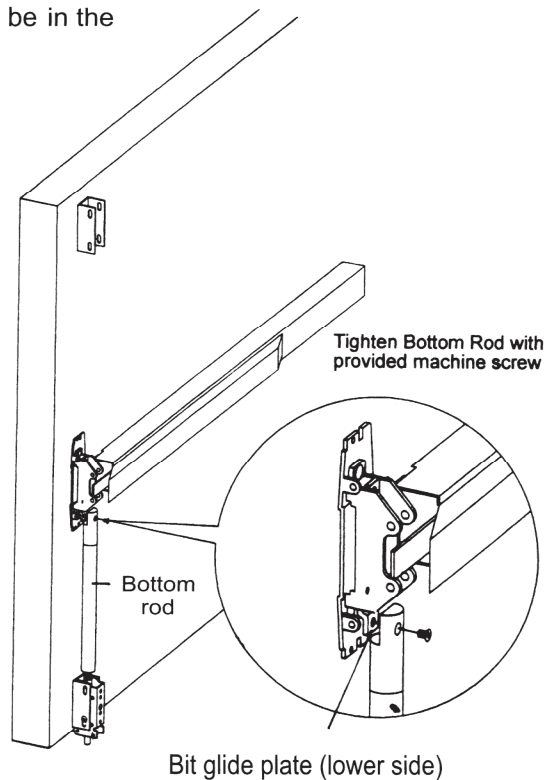

Figure 6
- Tighten bottom rod with bit glide plate which should be in the down position as shown in Figure 6.